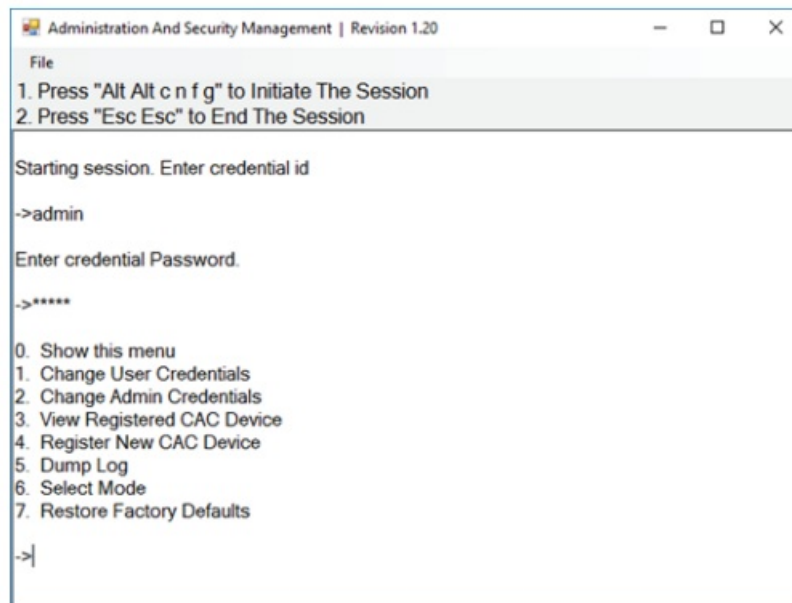

Figure 12-1
5. Request a Log Dump by selecting option 5 in the menu. (Shown in Figure 12-1)
5. Select option 7 from the menu on your screen and press enter. (Menu shown in Figure 12-1)